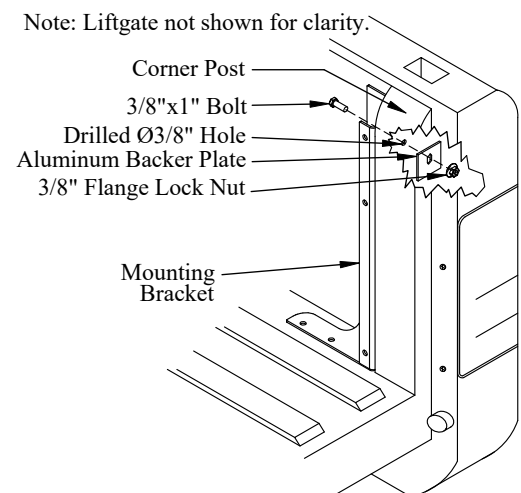

Figure 10: Mounting bracket and backer plates.
- (2) backer plates, (2) flat washers, (2) lock washers, and (2) hex nuts on the under-side.
10. **Drill** one (1) 3/8" hole into the truck corner post using hole in the bracket as a guide (Figure 10).
11. **Fasten** each bracket to the truck corner post using the supplied (Figure 10):